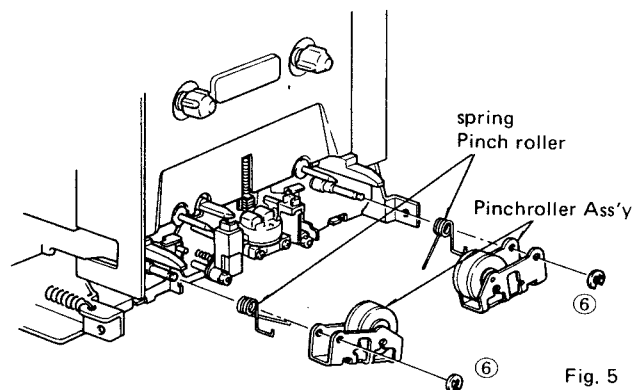

Fig. 5
(1) Replacement of pinch roller Ass'y
- Remove the E-ring (⑥) in fig. 5.